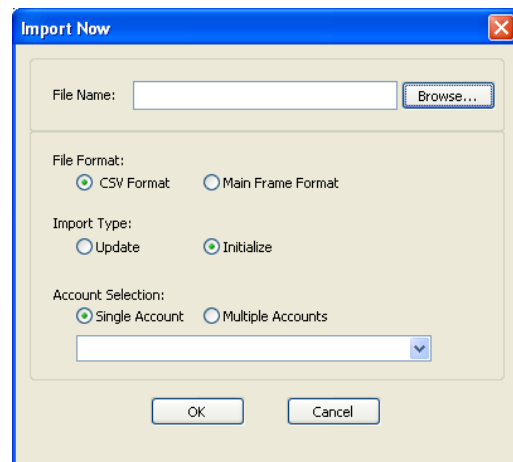

Figure 70
2. From FILE pull down menu, select IMPORT and then choose IMPORT NOW or SCHEDULED IMPORT. The selected import window will appear (Fig 70).